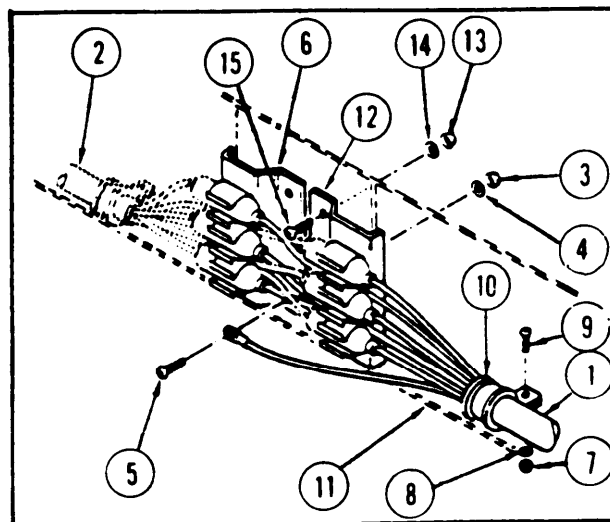
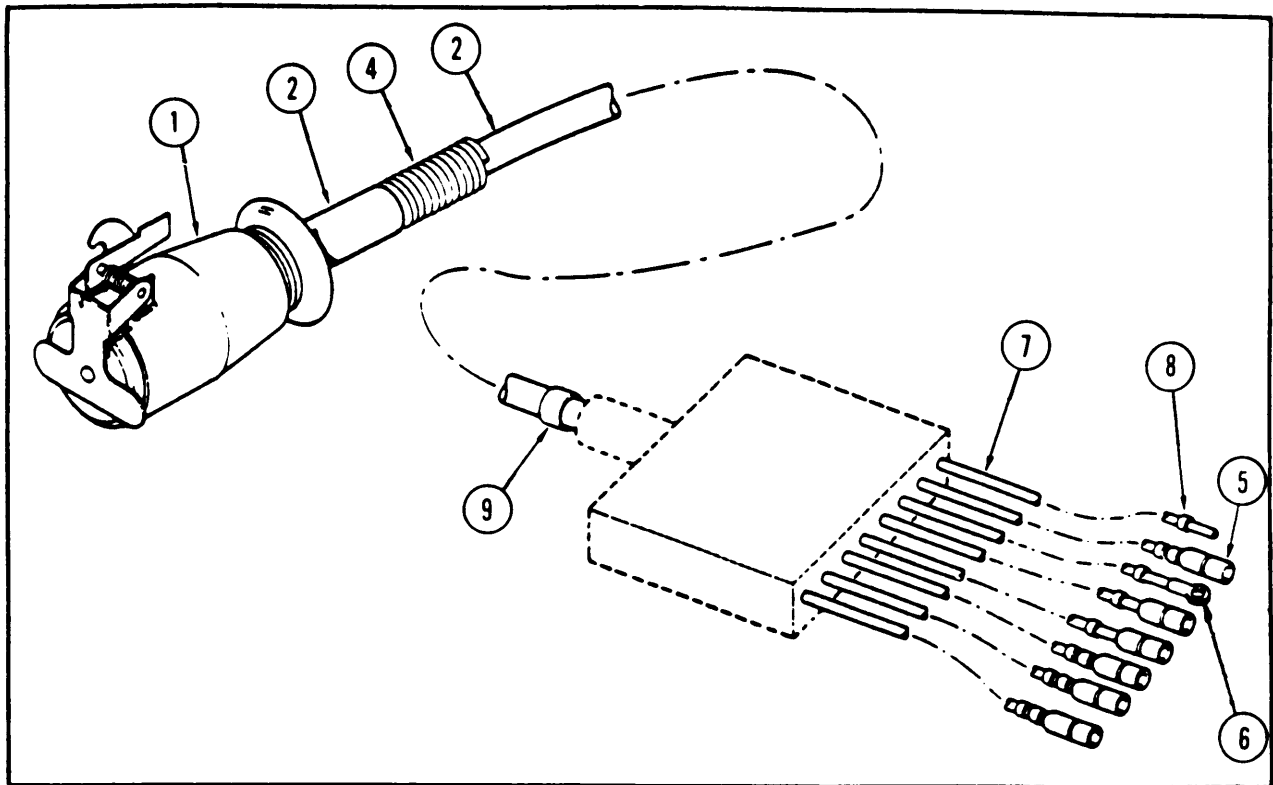

Figure 2-5. Trailer Cable Assembly (ARMY)
Figure 2-6. Trailer Cable (ARMY)
a. Removal. (Figure 2-5)
- (1) Disconnect cable assembly (1) from harness assembly (2).
- (2) Remove nut (3), washer (4) and screw (5) securing ground wire to clip (6).
- (3) Remove nut (7), washer (8) and screw (9).
- (4) Remove clamp (10) and cable assembly (1), then remove clamp from cable assembly.
- (5) Inspect clips (6) and (12). If damaged, remove remaining nuts (13), washers (14) and screws (15) securing clips (6) and (12) to trailer frame (11).
b. Disassembly. (Figure 2-6)
- (1) Remove connector (1) from cable (2), then remove adapter (3) and spring (4).
- (2) Remove connector (5) and terminal lug (6) from cable (7) . If marker bands are damaged, remove bands (8) and (9) .
f. Assembly (Figure 2-6)
- (1) If marker bands (8) and (9) were removed, install new bands on cables (7) and (2).
- (2) Install terminal lugs (6) and connectors (5) on cables (7).
- (3) Install spring (4) and adapter (3) on cable (2), then install connector (1).
g. Installation. (Figure 2-5)
- (1) If clips (6) and (12) were removed, position new clips to trailer frame (11) and install only screws (1 5), washers (14), and nuts (13) to secure clips to trailer frame.
- (2) Place clamp (10) on cable assembly (1), then position cable and clamp to trailer frame (11) .
- (3) Secure clamp (10) to trailer frame (11) with screw (9), washer (8), and nut (7).
- (4) Connect ground wire to clip (6) with screw (5), washer (4), and nut (3).
- (5) Connect cable assembly (1) to harness assembly.